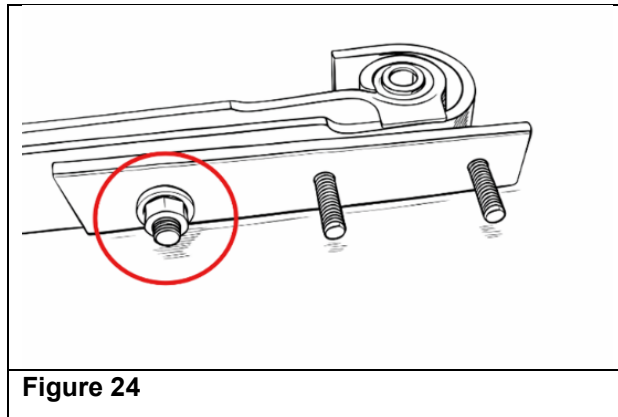

**Figure 22**
27. Install a new stud into a new stabilizer bar mounting plate into the hole on the plate 23mm from the leading edge. (See Figure 22.) Hold the plate in a vice while installing the new stud and use the same process described in Step 23 to install the stud. (See Figure 23.)